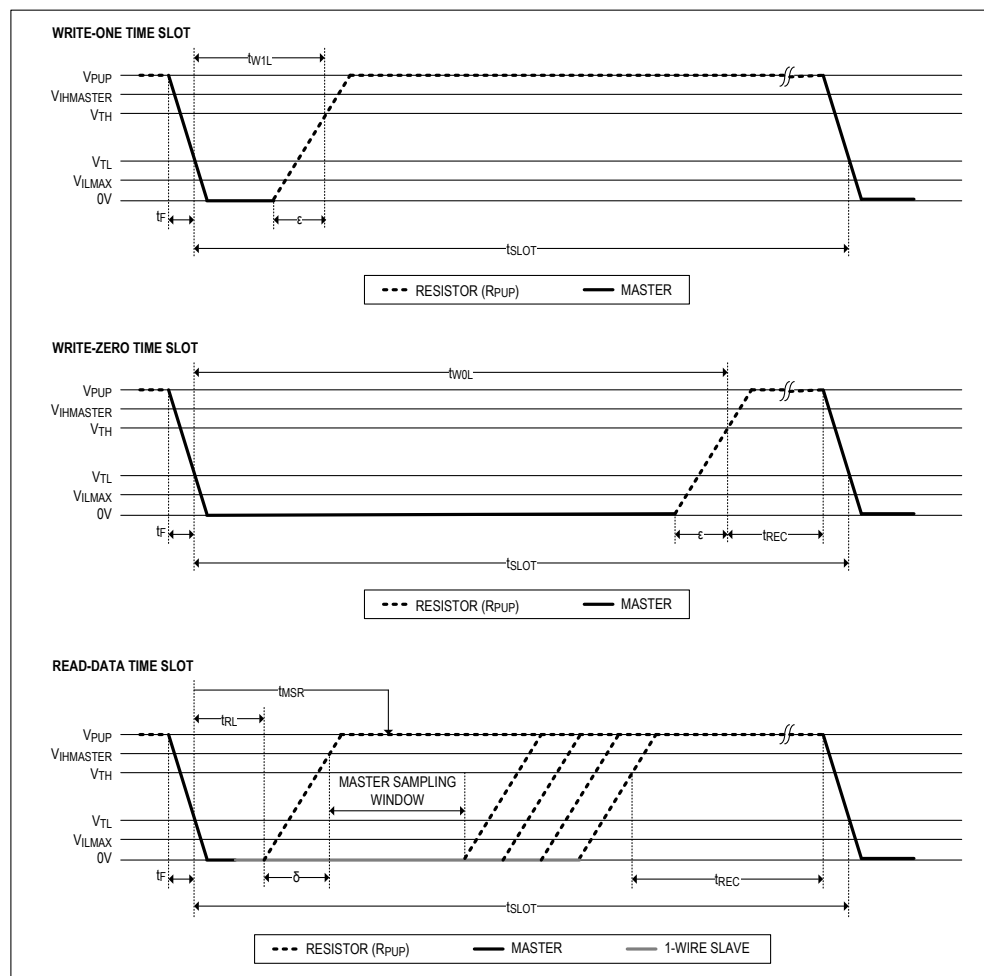

Figure 5. Read/Write Timing Diagrams
- Note 13:** System requirement. ϵ in Figure 5 represents the time required for the pullup circuitry to pull the voltage on IO up from V_{IL} to V_{TH} . The actual maximum duration for the master to pull the line low is $t_{\text{W1LMAX}} + t_{\text{F}} - \epsilon$ and $t_{\text{W0LMAX}} + t_{\text{F}} - \epsilon$, respectively.
- Note 14:** System requirement. δ in Figure 5 represents the time required for the pullup circuitry to pull the voltage on IO up from V_{IL} to the input-high threshold of the bus master. The actual maximum duration for the master to pull the line low is $t_{\text{RLMAX}} + t_{\text{F}}$.
Data communication with the DS28E38 takes place in time slots that carry a single bit each. Write time slots transport data from bus master to slave. Read time slots transfer data from slave to master. Figure 5 illustrates the definitions of the write and read time slots.